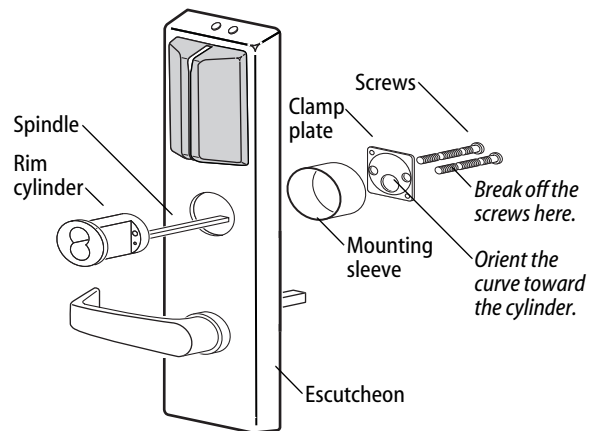

Figure 17 Installing the cylinder for Von Duprin rim and rod exit devices
If necessary break off the mounting screws as shown in Figure 17.
- 4 Orient the cylinder and clamp plate as shown in Figure 17. From the back of the escutcheon, secure the cylinder and mounting sleeve using the clamp plate and mounting screws.